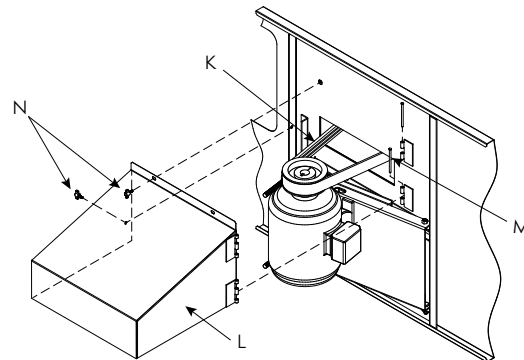

Figure 20b — Motor Guard and Power-Band Belt Installation
7. Install Power-Band belt **K** (**Figure 20b**) around fan sheave and motor sheave. Tighten belt by adjusting nuts on "J" bolts. Do not overtighten the belts. The center of the belt should deflect approximately 3/4" (19mm) in the horizontal plane with moderate hand pressure.
10. To install motor guard **L**, match up hinges and install hinge pins **M** as shown in **Figure 20b**.